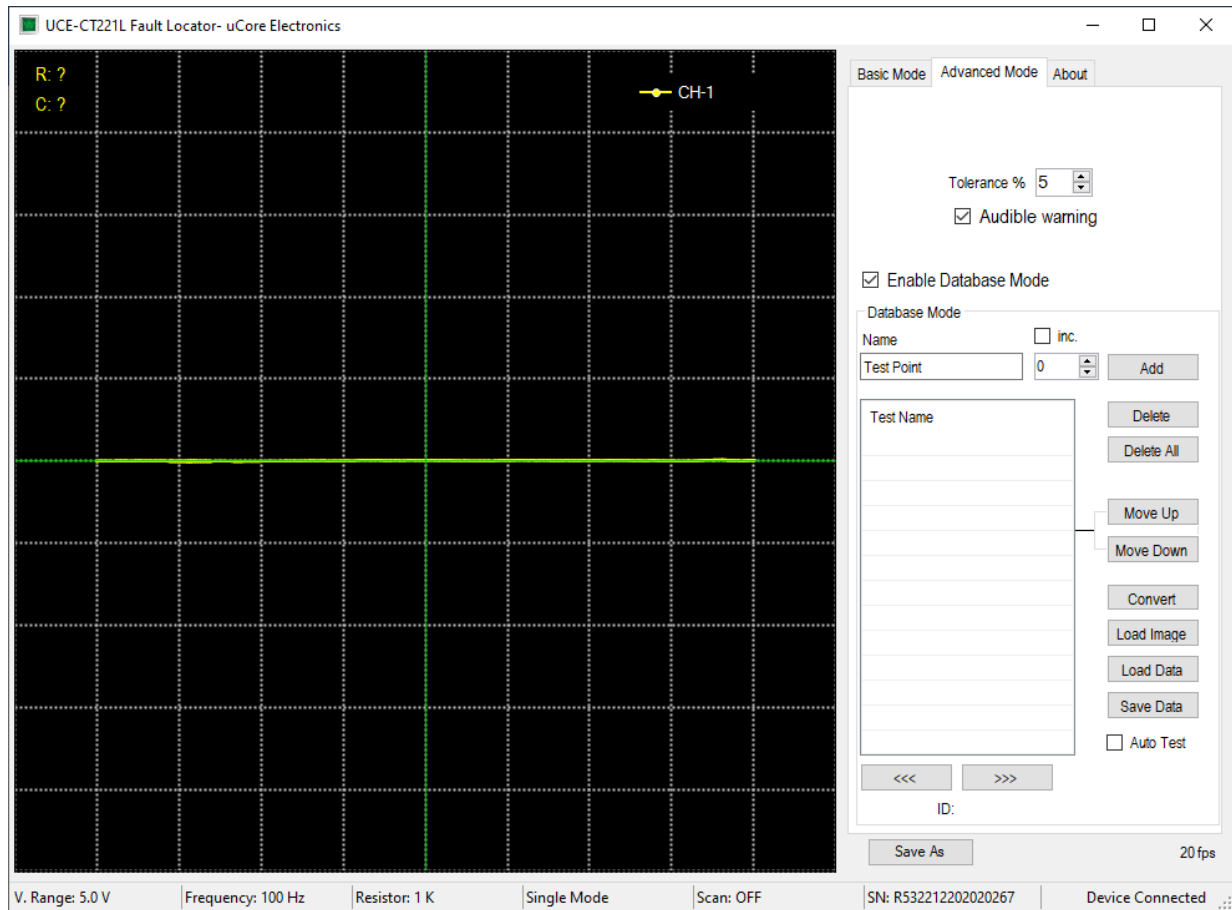
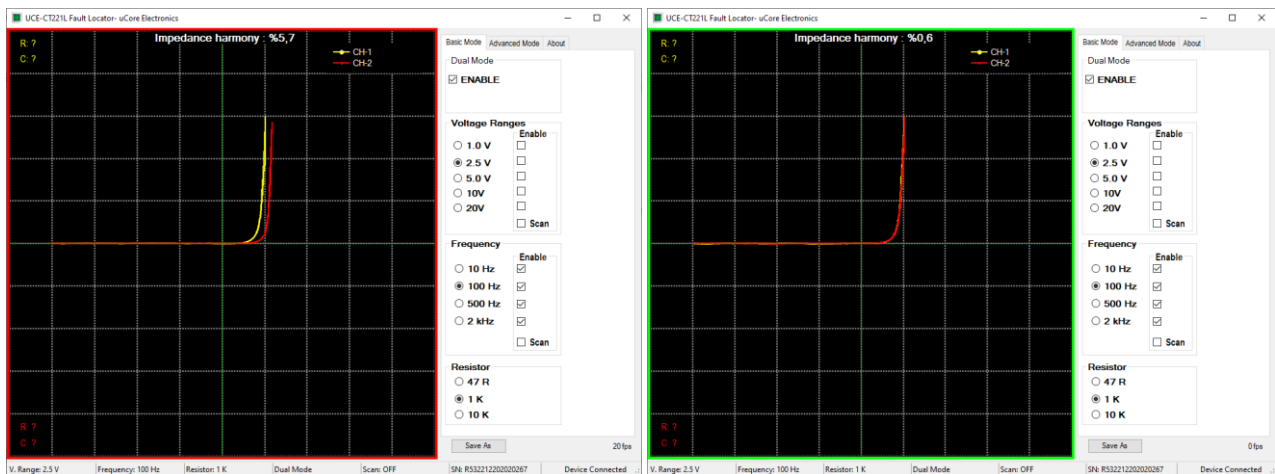

Figure 27. Overview of PC program (Advanced Mode)
Figure 28. Two channel comparison in Dual Mode
**Advanced Mode:** It is the menu where database operations are performed (Figure 27).
When the two channels are active, the comparison algorithm is also active. The impedance curve in both channels is compared with the algorithm. As a result of the comparison, a percentage value called impedance harmony is calculated. If this value exceeds the tolerance value set in the **Advanced Mode** tab (Figure 27), the comparison fails and a red frame appears around the graphics area. If it passes, a green frame is formed (Figure 28).
**Note:** the database data file has the extension "uce". The image file has a "pcb" extension. Image extensions that can be used in the PC program are "jpg", "bmp", "png" and "gif". The image file used in the database should be converted to a **pcb** file and copied to the device memory. For this, the **Convert** button is used in the PC program (Figure 27). When the **Convert** button is pressed, the image file used in the database is selected and the **Open** button is pressed. A file with **pcb** extension is created with the name of the same image file in the same folder. This file must be used as an image file in the database test on the device.